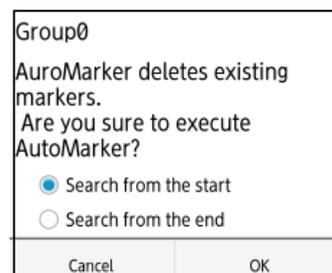

Figure 4-70 AutoMark screen
- (1) Tap **[AutoMark]** menu. Then AutoMark screen (Figure 4-70) appears. The mark ● shows the current setting.
- (2) Tap a desired setting: **[Search from the start]** or **[Search from the end]**, and confirm the mark ● is attached to the selected setting.
- (3) Tap **[OK]** to execute the AutoMark function, then the screen return to the main screen. To cancel the AutoMark function, tap **[Cancel]**, then the screen returns to the main screen without executing the AutoMark function.